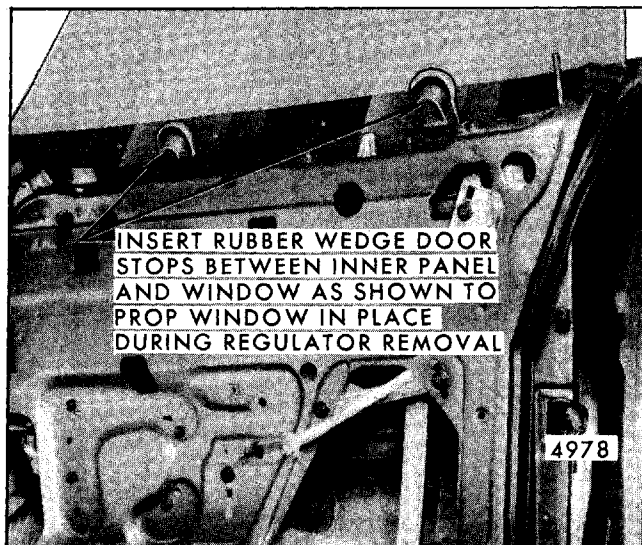

Fig. 5-126-Door Window Propped in Place for Regulator Removal
2. Prop window in half-up position by inserting rubber wedge door stops between window and inner panel (at belt) at front and rear of window (Fig. 5-126). If door stops are not available, remove window as previously described in this manual.
2. Prop window in raised position with rubber door stops (Fig. 5-126) or with cloth body tape applied over door frame.
3. Lower window to half-down position. Punch out rivet center pins, then drill out rivets (4, Fig. 5-75) with 1/4" drill bit. Disengage regulator lift arm roller from lower sash channel cam and prop window in full-up position with rubber door stops as shown in Figure 5-126. Remove by rotating regulator so that motor portion of regulator comes out access hole first.
2. Prop window in half-raised position with rubber door stop wedges as shown in Figure 5-126.